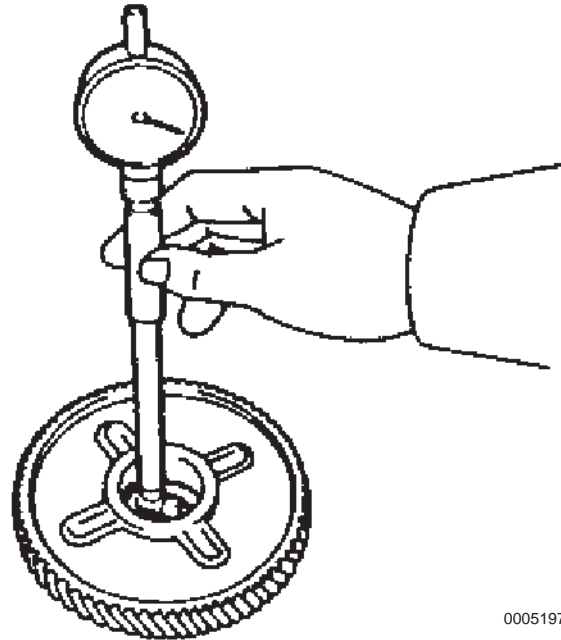

Figure 5-197
1. Measure the inside diameter of the idler gear using a cylinder bore gauge (**Figure 5-197**).